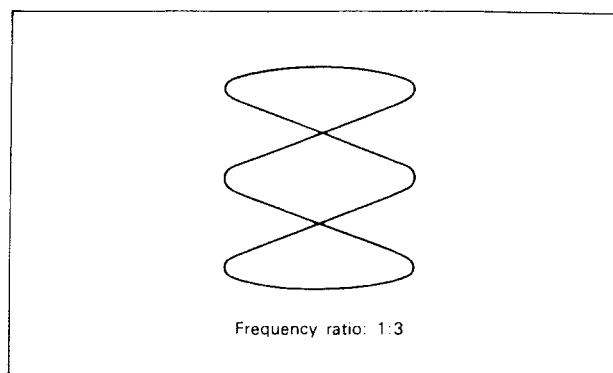

Fig. 5-12. Example, Lissajous' figure
2. Measurement of Lissajous' figures (Ex. Fig. 5-12). (Set the sweep range selector switch to RTTY/EXT, and connect an audio frequency generator as an external sweep source, to the horizontal input terminal.)